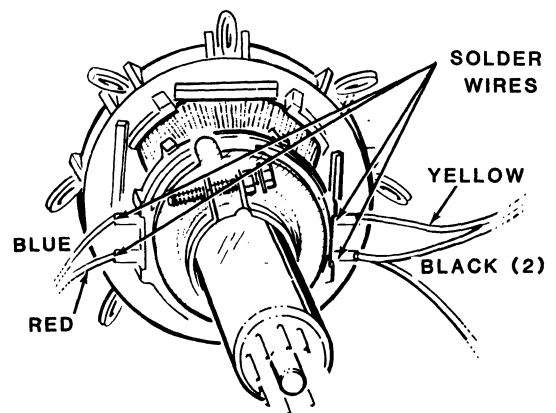

Figure 8.7
5. Refer to Figure 8.7 and resolder the wires to the terminals on the CRT deflection yoke.